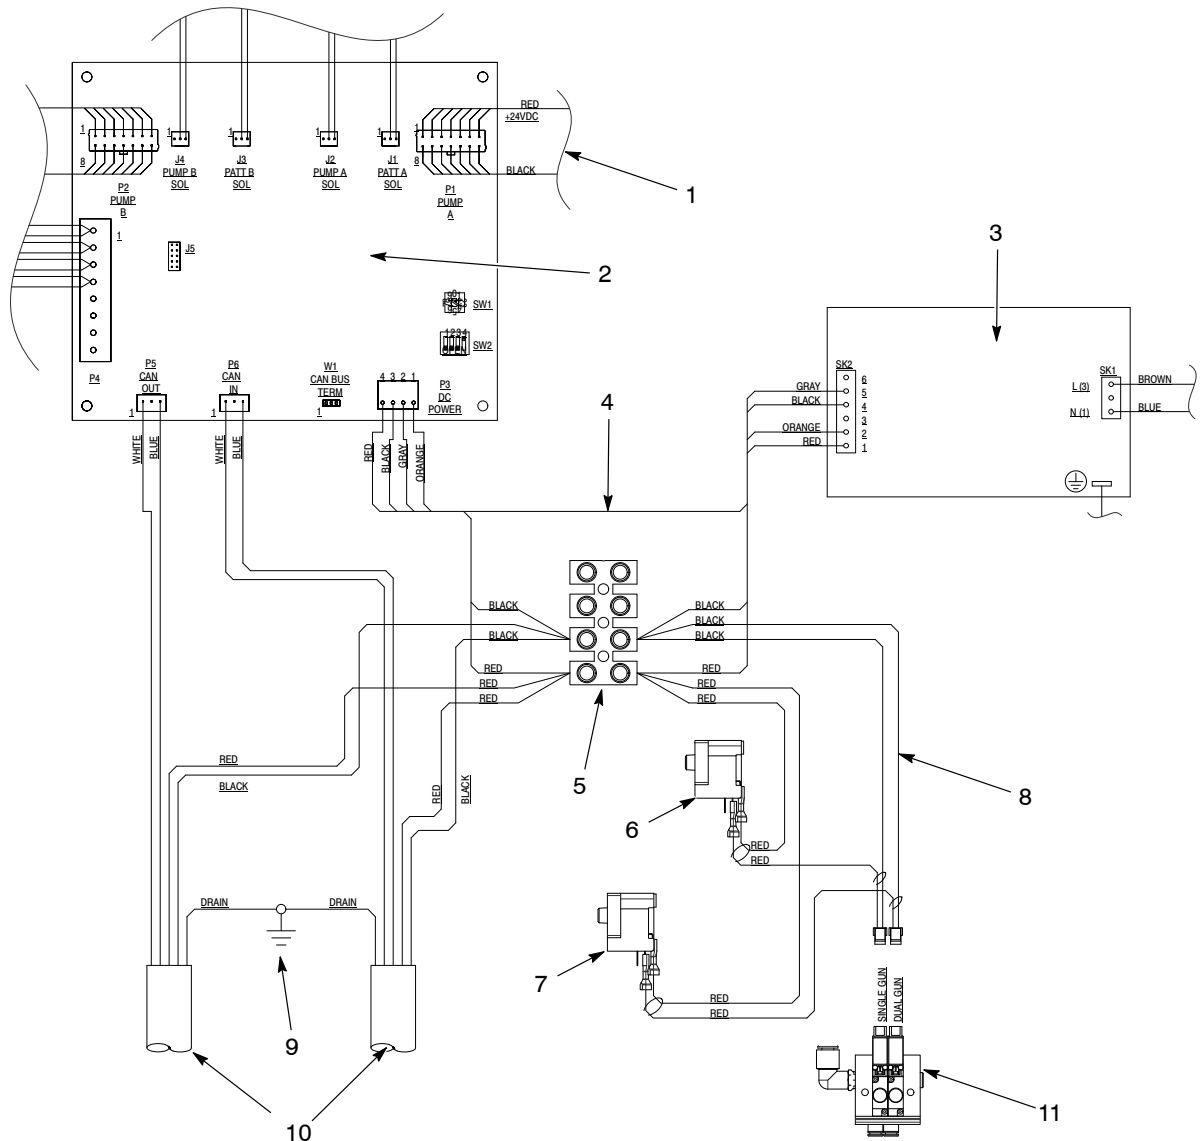

Figure 3 Wiring Diagram (Two-Gun System Shown)
See Figure 3 for wiring illustration.
3. Install new cable(s) as described in Figure 3, item 10.
See Figure 3, item 8 for wiring illustration.
1. Connect the wiring harness (8) to the terminal block (5) and the pressure switch (6).
2. For dual pump system, connect the harness to the second pressure switch (7).